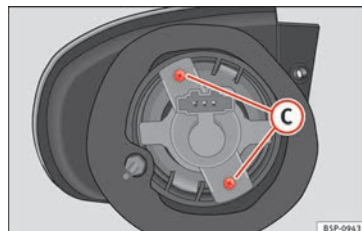

Fig. 186 Turn signal light.
- Unscrew the bolts » **Fig. 186 C** from the bulb holder and pull on this.